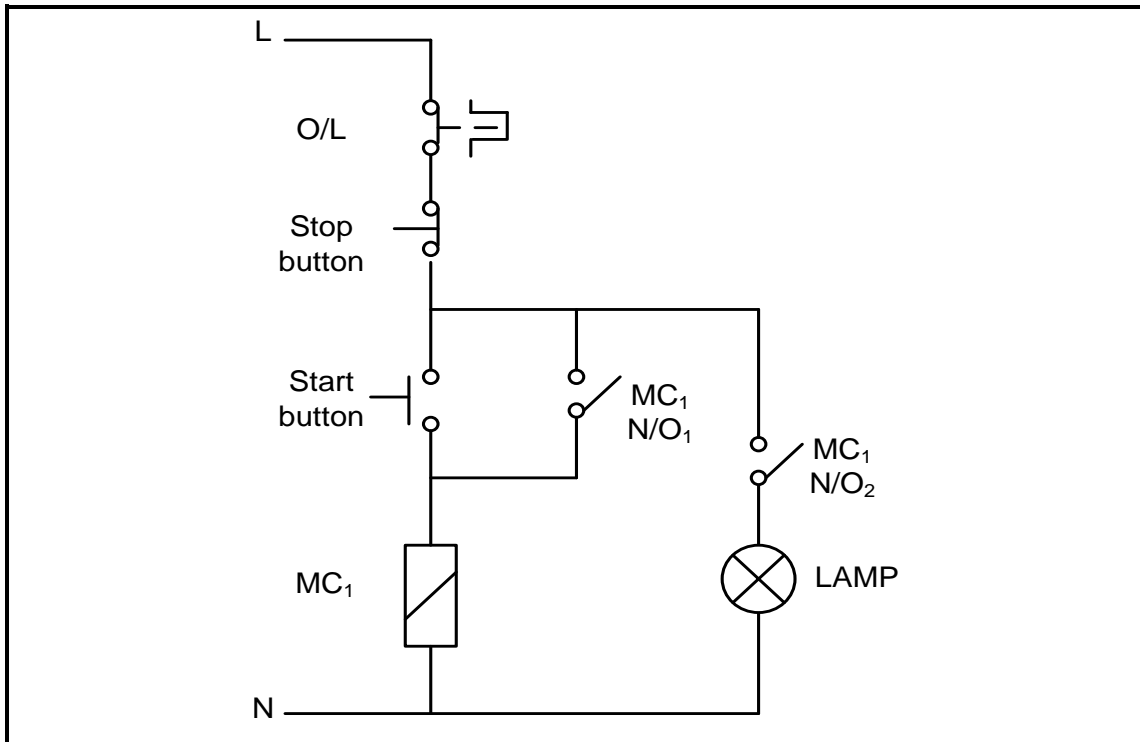

FIGURE 6.7: CONTROL CIRCUIT
6.7 Draw a ladder logic diagram that will execute the same function as the control circuit in FIGURE 6.7 below.